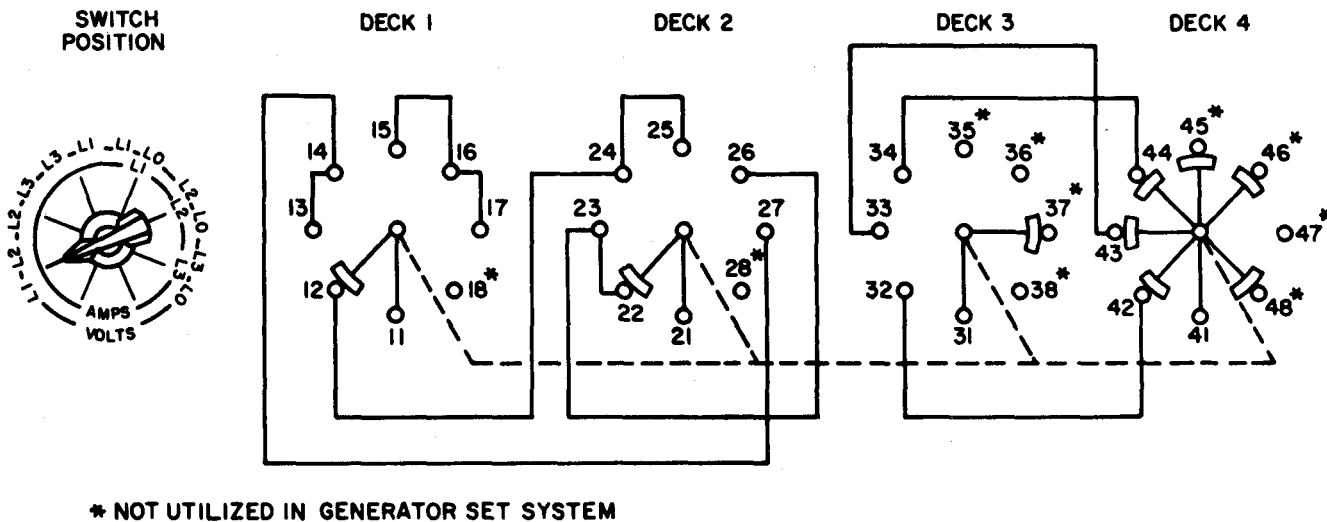

Figure 3-21. Ammeter-voltmeter selector switch, simplified schematic
3. Tag and disconnect electrical wiring from switch. Test switch for continuity, refer to figure 3-21.